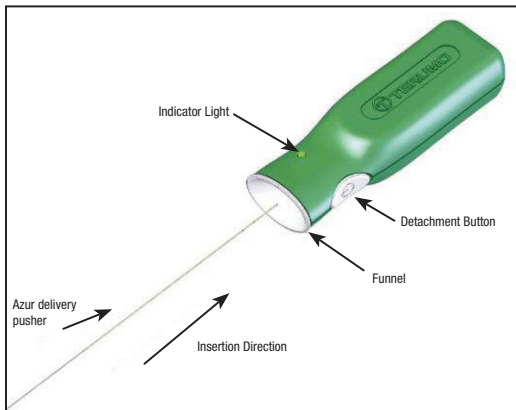

Figure 2 – Azur Detachment Controller
14. Prior to using the device, remove the proximal end of the delivery pusher from the packaging hoop. Use care to avoid contaminating this end of the delivery pusher with foreign substances such as blood or contrast. Firmly insert the proximal end of the delivery pusher into the funnel section of the AZUR Detachment Controller. See Figure 2. **Do not push the detachment button at this time.**
35. Connect the proximal end of the delivery pusher to the AZUR Detachment Controller by firmly inserting the proximal end of the delivery pusher into the funnel section of the AZUR Detachment Controller. See Figure 2.